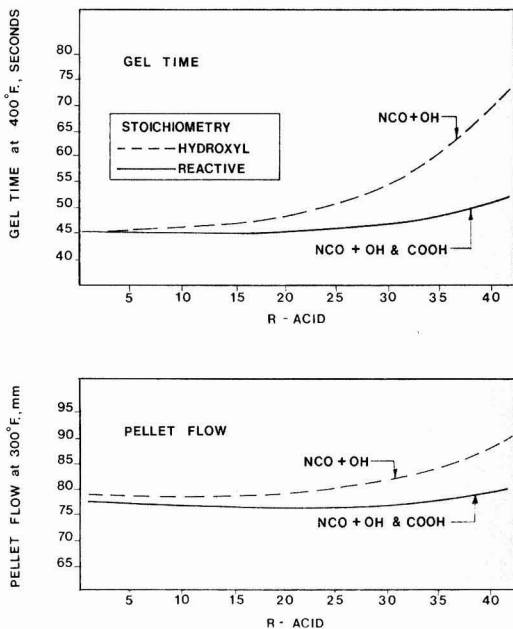

Figure 8—Gel times and pellet flow using (aromatic) crosslinker NT-1
*Figure 8* suggests that the faster reacting aromatic curative, NT-1, is not responsive to the catalytic influence of carboxyl groups, as evidenced by essentially zero slopes in the low R-Acid range. But in the high R-Acid range where the compounds were formulated on reactive number the curves diverge, strongly suggesting that the NCO/COOH curing reaction is occurring. The divergence is more pronounced for gelation than for pellet flow, reflecting the more vigorous rate of amide formation at the higher temperature used in the gel test (400°F) vs pellet flow (300°F).